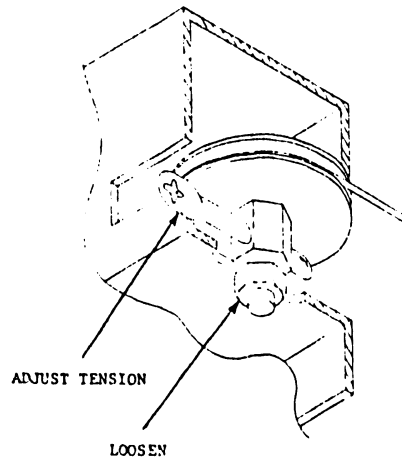

FIGURE 5-3 PEN DRIVE IDLER PULLEY
1. Loosen locknut on pen drive idler pulley and turn cable tension adjusting screw CCW to release pen drive cable tension (see Figure 5-3).
2. To adjust cable tension, loosen lock nut under cable idler pulley and turn cable tension adjusting screw for proper tension, then retighten idler pulley lock nut (see Figure 5-3).